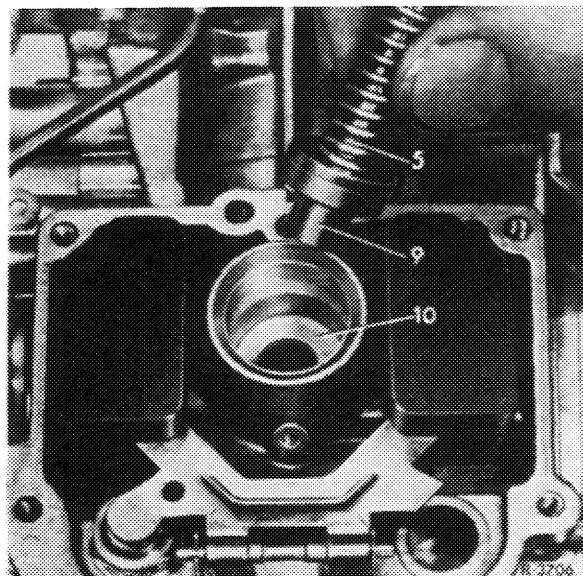

Fig. 07-4/7
8 Insert needle nozzle with guide tube into carburetor housing (Fig. 07-4/7).
9 Screw holding screw (3) into carburetor housing and tighten slightly (Fig. 07-4/8).